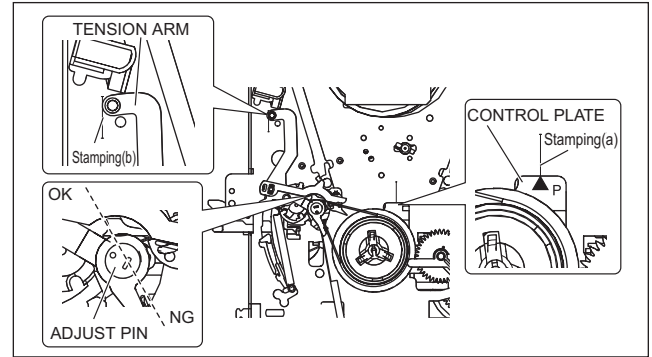

Fig.4-2a
- (1) Play back the back tension cassette gauge (A).
- (2) Check that the indicated value on the left side gauge is within the specified value (G).
- (3) If the indicated value is not within the specified value (G), perform the adjustment in a following procedure. (See Fig.4-2a.)
- d) Rotate the reel disk (S) by about one turn clockwise and make sure that the round hole of the adjustment pin is located in the "OK" range. If it is outside this range, restart the adjustment from the beginning.